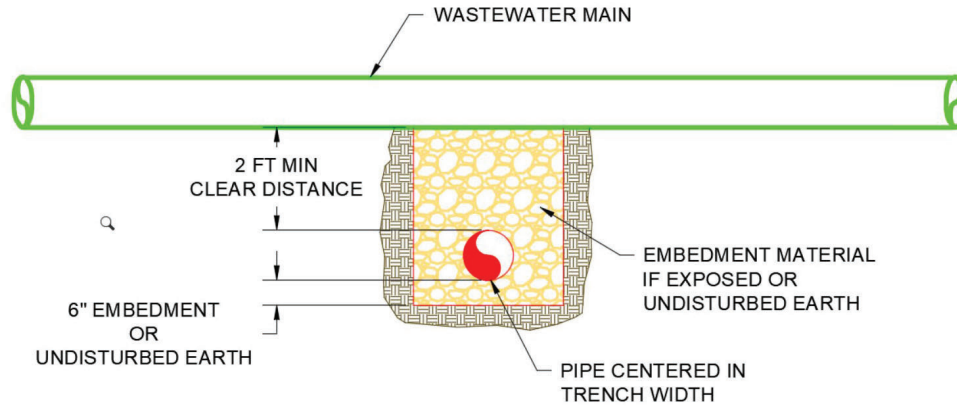

Figure 18 - Sewer Crossing
- 4.6. Public wastewater mains crossing public water mains or any other utility, must provide a minimum vertical separation distance of two (2) feet between the public wastewater main and the public water main or other utility. All design drawings must show and indicate this minimum clear distance. Piping must be arranged so that joints in a twenty (20) feet length of the water main will be equidistant from the wastewater main. "Type A" stone backfill is required under the crossing pipe and above the public water or wastewater main being crossed. These crossing requirements must be indicated and labeled on all design drawings submitted for review and approval. See Figure 18 shown on the next page.